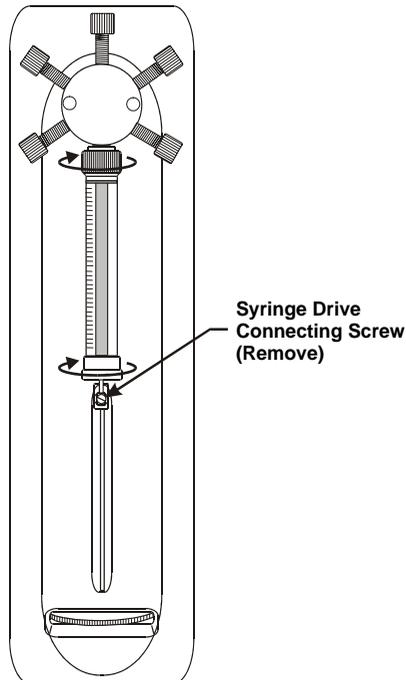

Figure B-19. Removing the Syringe
6. Unscrew and remove the syringe drive connecting screw (see Figure B-19).